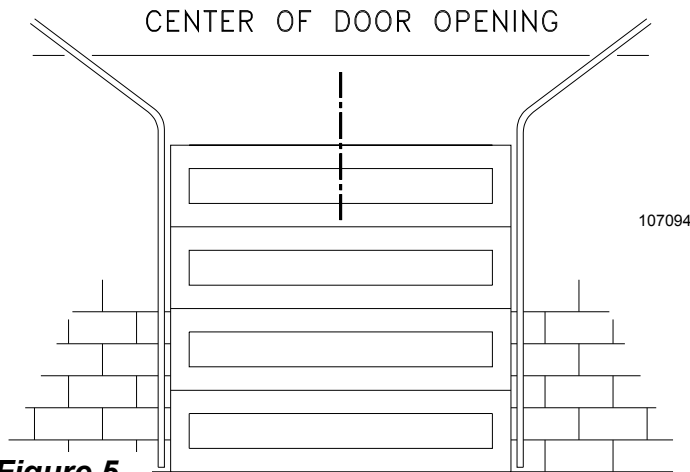

Figure 5
- 1) Locate the center of the door and mark a line on the wall directly above the door. Extend this line approximately 20" up the wall. See Figure 5.